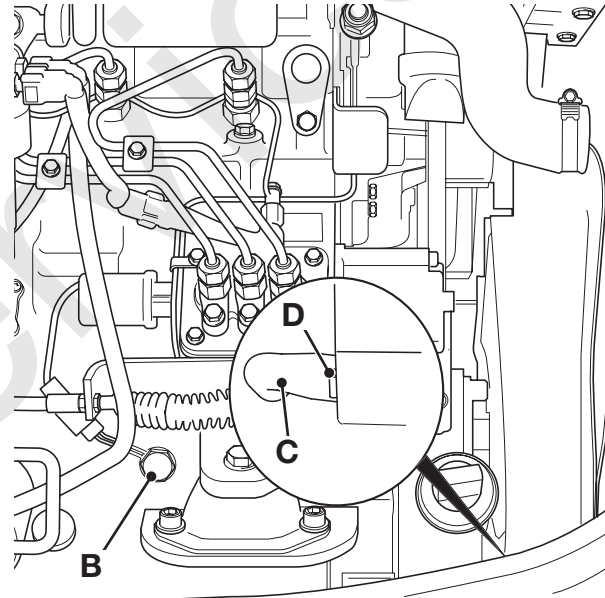

Fig 86.
- 3 Undo the plug **B** on the cylinder block and let the coolant drain out. Remove the bottom radiator hose **C** by unfastening at clip **D** and let the coolant drain out. Make sure the drain hole is not blocked. → Fig 86. \(□ 227\).